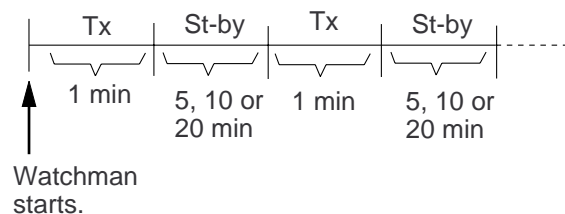

Figure 2-13 How watchman works
Case 1: When there are targets inside the zone, the alarm zone is automatically set to "Auto Out Alarm" mode and the indication "GUARD" is replaced by "G (OUT)". The audible alarm sounds only on targets which go out of the zone or disappear. See Figure 2-13 (1).
Case 2: When no targets exist inside the zone, the alarm zone is automatically set to "Auto In Alarm" mode and the indication "GUARD" is replaced by "G (IN)". The audible alarm sounds only on targets which go into the zone. See Figure 2-13 (2).